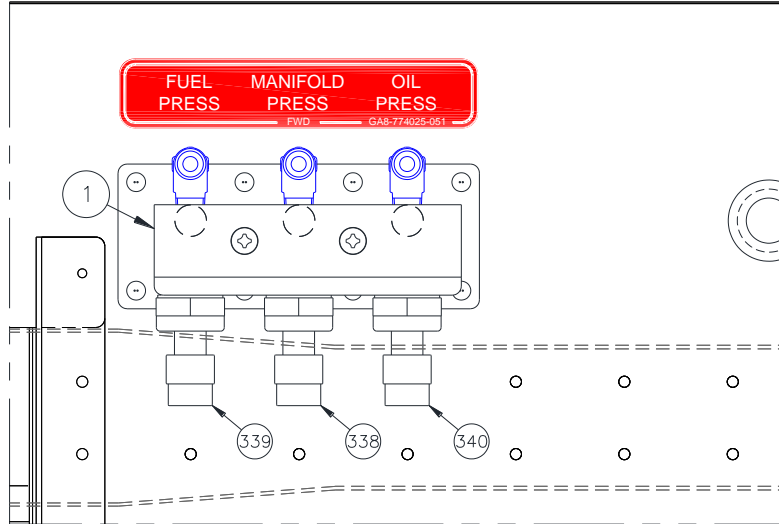

Figure 8: Installation of pressure sensors detailed in Table 5.
Table 5: Item Numbers correspond to GA8-773004 Sheet 1 Issue 1 and Figure 8.
16. Apply Item C3 sparingly to the threads of the pressure sensors detailed in Table 5, omitting the first 2 threads, and install each pressure sensor to Item 1, as per Figure 8. Ensure that each pressure sensor is installed into the correct 1/8"-27 NPT tapped hole and that no leaks can occur.